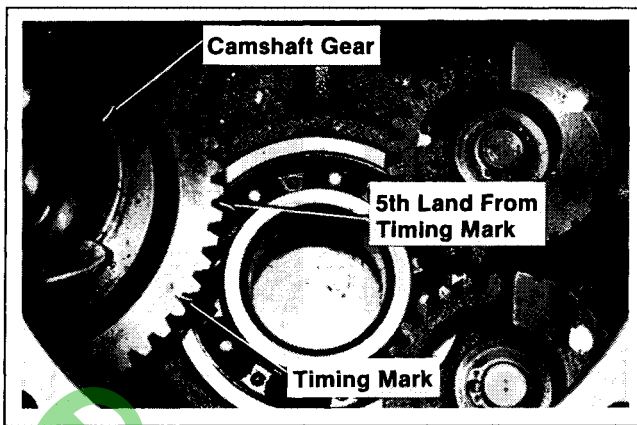

Figure 12-19. Marking Land On Camshaft Gear.
Camshaft – Locate the timing mark on camshaft. Starting with the land next to the timing mark, count **five (5)** lands in a **counterclockwise** direction. Mark the fifth land. Refer to Figure 12-19.